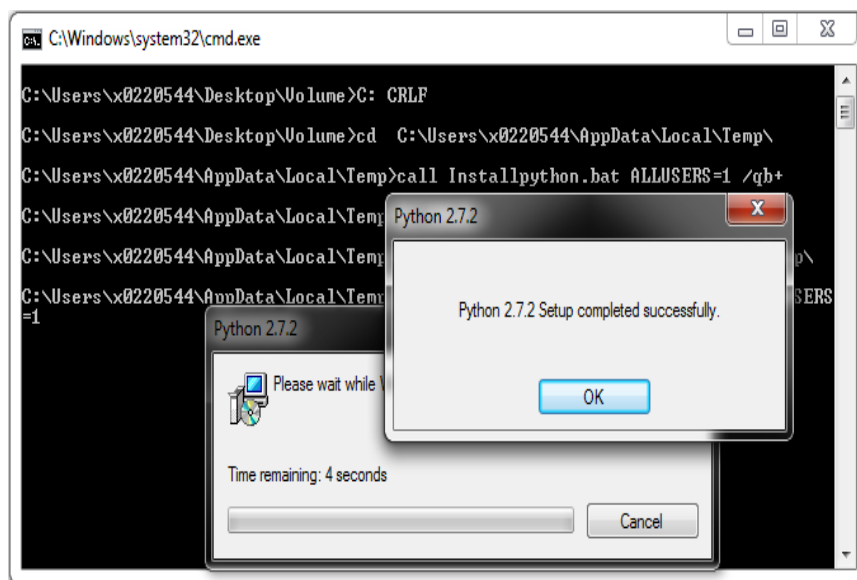

Figure 1-8 Python Installation Complete
- 7.1. Once python is installed, a screen as shown in Fig.1-8 will appear. Click **Ok** to proceed with USB2ANY installation.